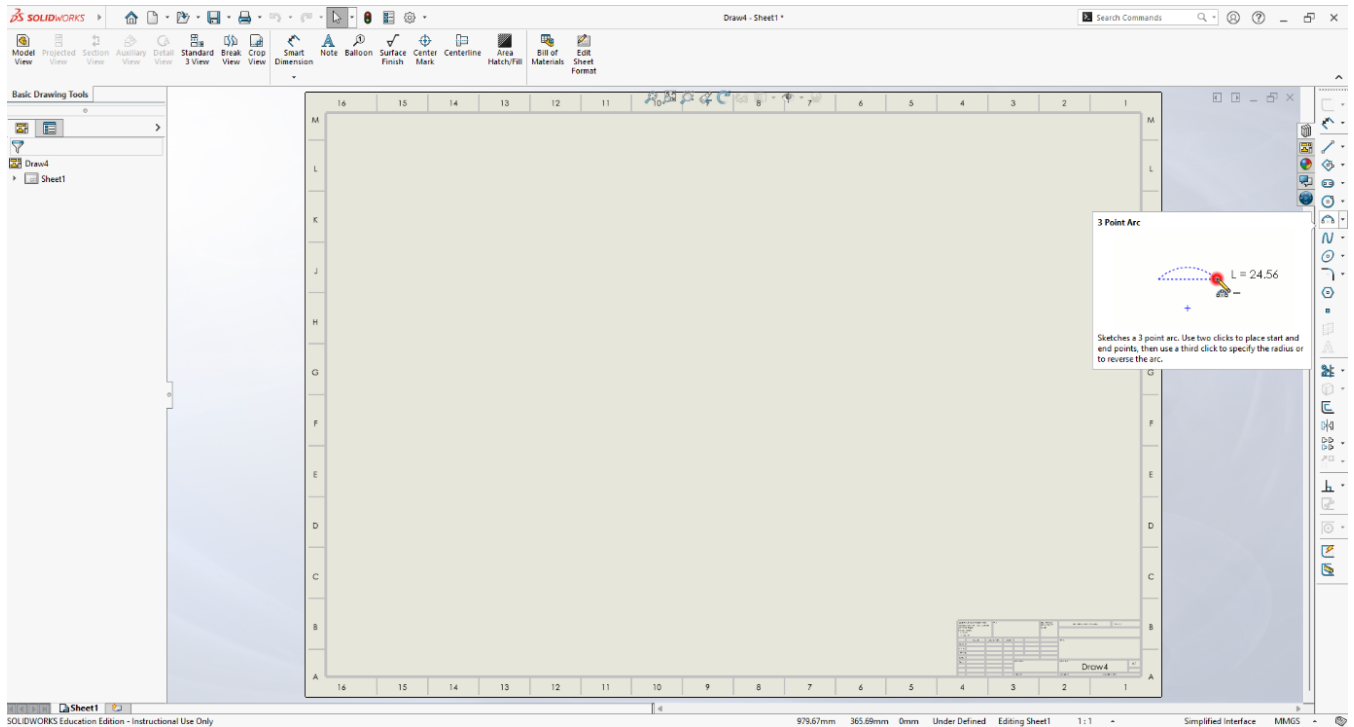

Figure 2.14: Location of Arc Tool
3. Arc: The Arc Tool in SolidWorks is used to create curved geometry within sketches. It supports drawing three types of arcs, each serving different design needs (Figure 2.14):